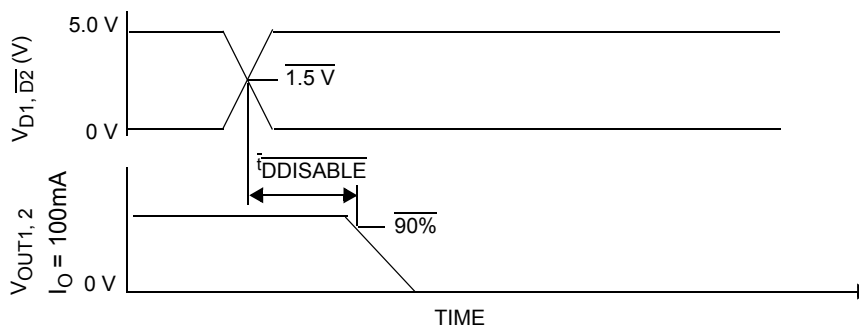

Figure 5. Disable Delay Time
26. Disable Delay Time measurement is defined in Figure 5, page 10.